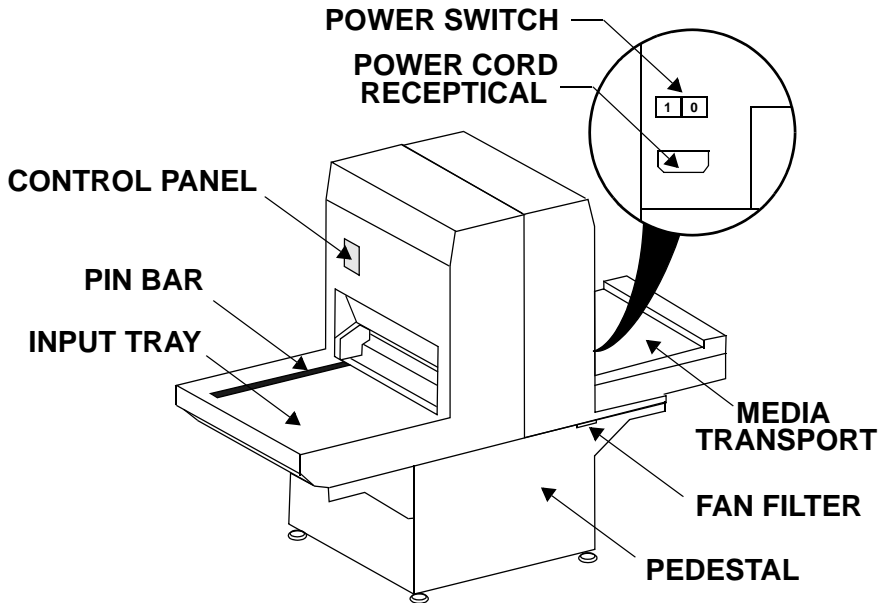

Figure 2-2 External View of the Platesetter
The power cord receptacle is located on the right side of the system, as shown in Figure 2-2.
The power switch controls ac power to the system. To start up the system, turn on the power switch located on the rear right side of the machine. Depress zero (0) to turn **OFF**, depress one (1) to turn **ON**. See Figure 2-2.